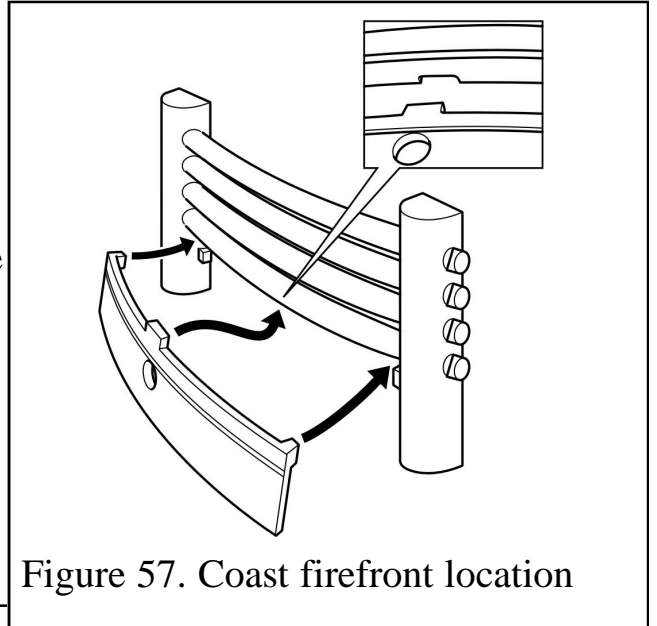

Figure 57. Coast firefront location
2. On models with a two piece firefront place the lower front cover casting / ash pan below the front casting. For the 'Coast' model see figure 57.